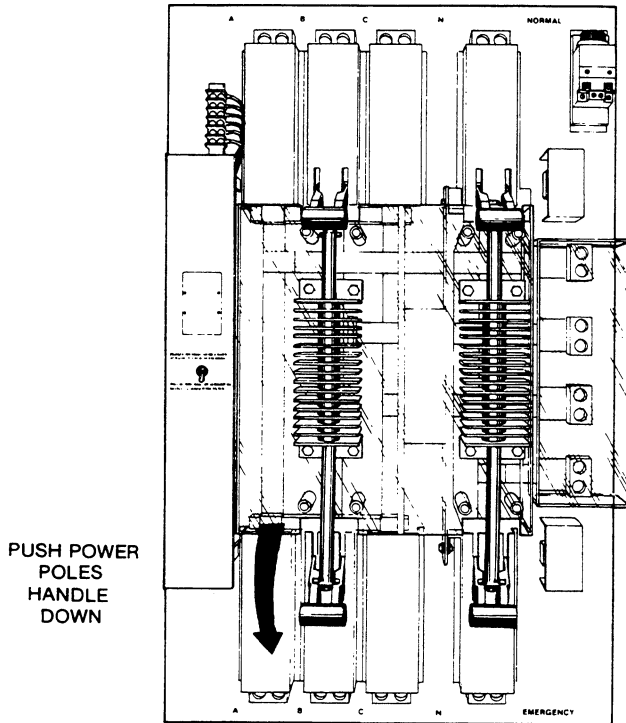

FIGURE 15.
4. Push the lower power pole handle down, as in Figure 15, connecting the load to the emergency power source. This completes the manual transfer switching sequence.